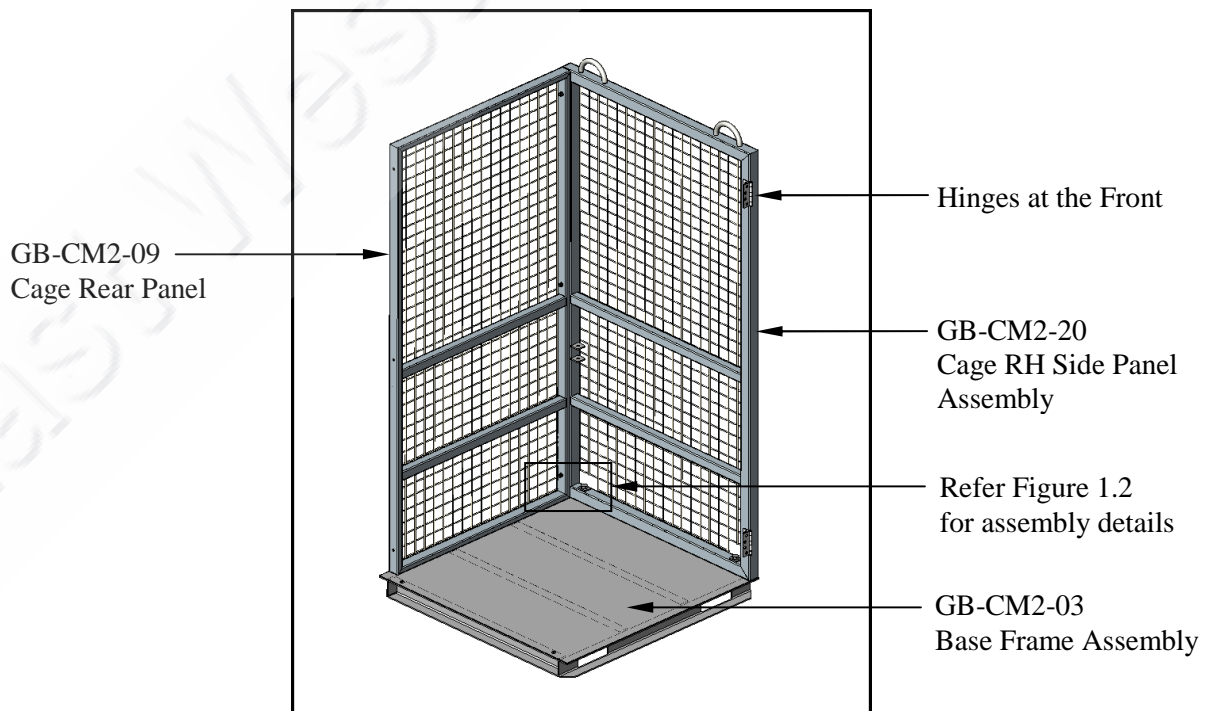
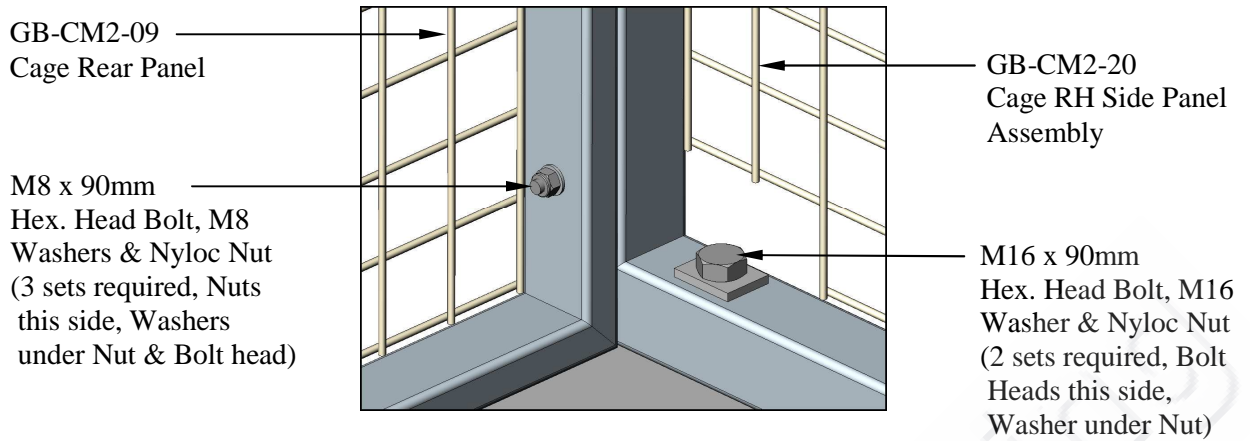

Figure 1.1
Figure 1.2
- C) Place the Base Frame Assembly (Item 1) on level ground. Place the Cage RH Side Panel Assembly (Item 2) onto the Base orientated as shown in Figure 1.1 & 1.2 with the Mesh to the outside of the Cage, Hinges towards the front, aligning the two (2) bottom holes with those in the Base. Loosely assemble together using two (2) M16 x 90mm long Hex. Head Grade 8.8 Bolts (Item 18), M16 Nyloc Nuts (Item 19) and M16 Flat Washers (Item 20 – placed under Nuts) with the Bolt heads positioned as shown in Figure 1.2 below.
- D) Place the Cage Rear Panel (Item 4) onto the Base orientated as shown in Figure 1.1 & 1.2 with the Mesh to the outside of the Cage, aligning the three (3) side holes with those in the Cage RH Side Panel Assembly. Loosely assemble both Panels together using three (3) M8 x 90mm long Hex. Head Grade 8.8 Bolts (Item 12), M8 Nyloc Nuts (Item 13), placing M8 Flat Washers (Item 14) under the Nuts & Bolt Heads. Bolt heads to be positioned outside Cage as shown.